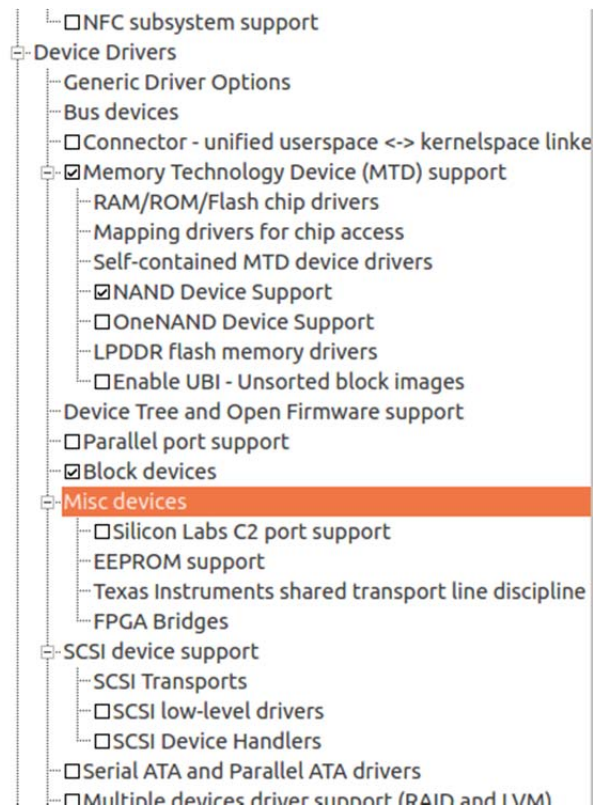
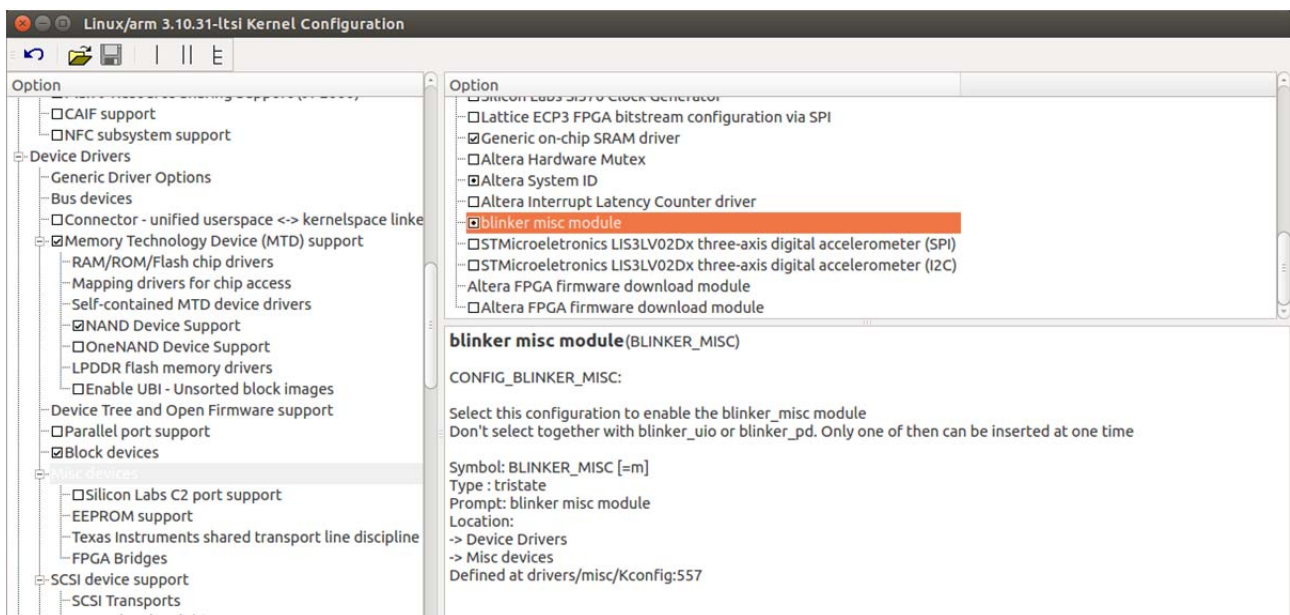

Fig. 117: Adding miscellaneous drivers in the Kernel
Fig. 118: Detail of the selection of the kernel driver.
3. Mark the “blinker misc module” as shown in the Fig. 117 and Fig. 118 to enable its compilation as a loadable module, if you select the “check mark” then the module will be included as part of the kernel and it won’t be necessary to load it with the modprobe command.